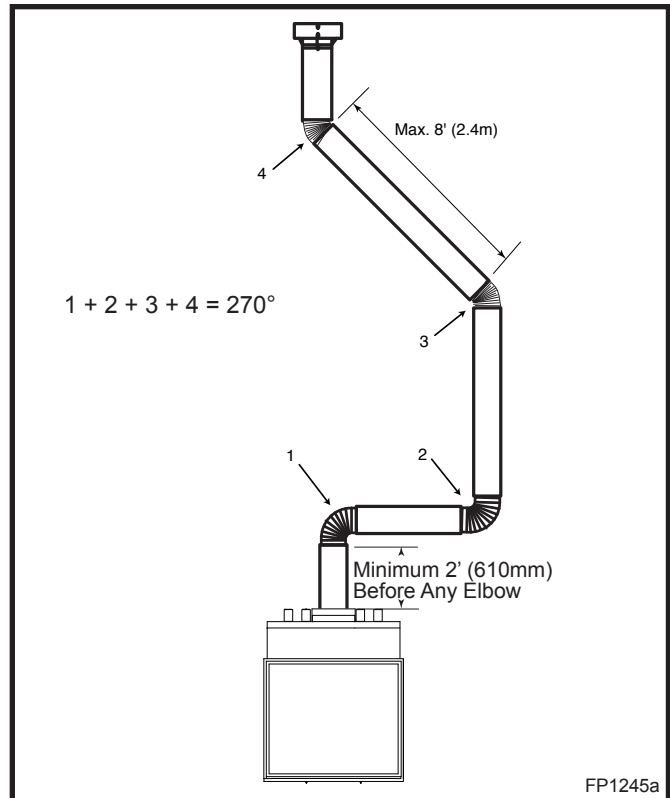

Fig. 29 Typical offset application.
- Up to two (2) 30° or 45° elbows may be used within the horizontal run. For each 30° or 45° elbow used on the horizontal level the maximum horizontal length must be reduced by 18" (457 mm).
- Two sets of 30° or 45° elbows offsets within these vertical installations. From 0 to a maximum of 8' (2.4 m) of vent pipe can be used between elbows. (Fig. 29)